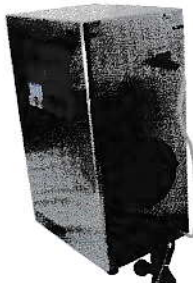

Fig. 9 Connection of ozone generator without air-drying or oxygen apparatuses
9.1 Operation and connection method of ozone generator without air-drying or oxygen apparatuses are shown in Fig. 9. Connect air outlet 7 directly to oxygen inlet 9.